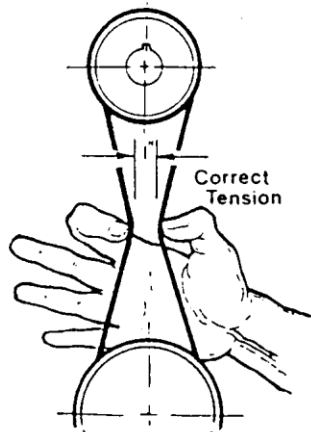

FIGURE 6: BELT TENSION;
7. Pull down on the motor to achieve the desired belt tension. Correct tension is when the belt can be deflected approximately  $\frac{1}{2}$ " ( $\frac{1}{4}$ " each side of belt) at the center of the belt aspen using light finger pressure (Fig.6).